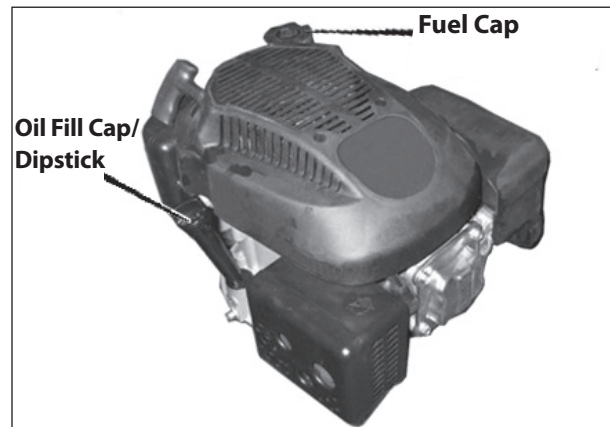

Figure 4: Filling the engine with fuel and oil.
1. Remove the oil fill cap/dipstick. **SEE FIGURE 4.** Fill the crankcase to the FULL line on oil fill cap/dipstick. **DO NOT OVERFILL.**